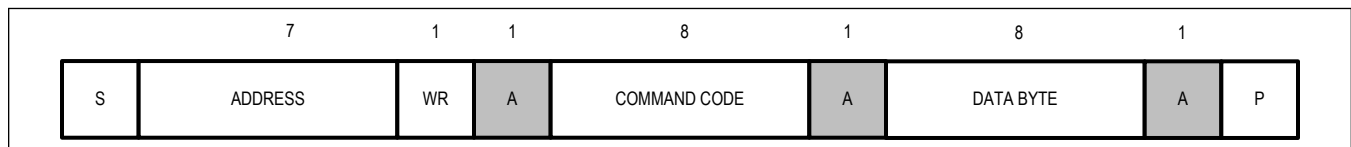

Figure 2. I²C Write
A write operation (Figure 2) begins with the bus master issuing a START (S) condition followed by seven address bits and a write bit (R/W = 0). If the address byte is successfully received, the device (slave) issues an acknowledge (A). The master then writes to the slave and the sequence is terminated by a STOP (P) condition for a single write operation.